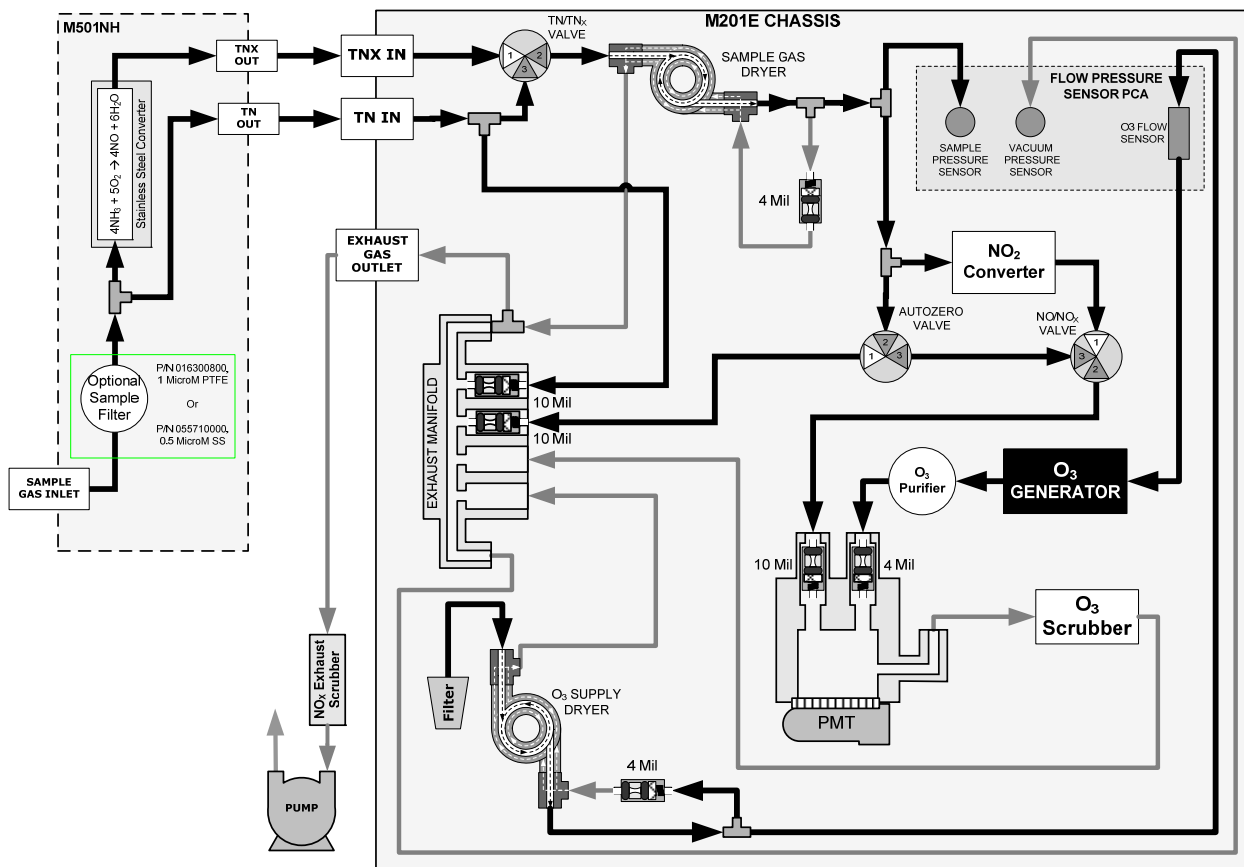

Figure 1-2. M201E and M501NH Pneumatic Flow
- The basic system is shown in Figure 1-2.